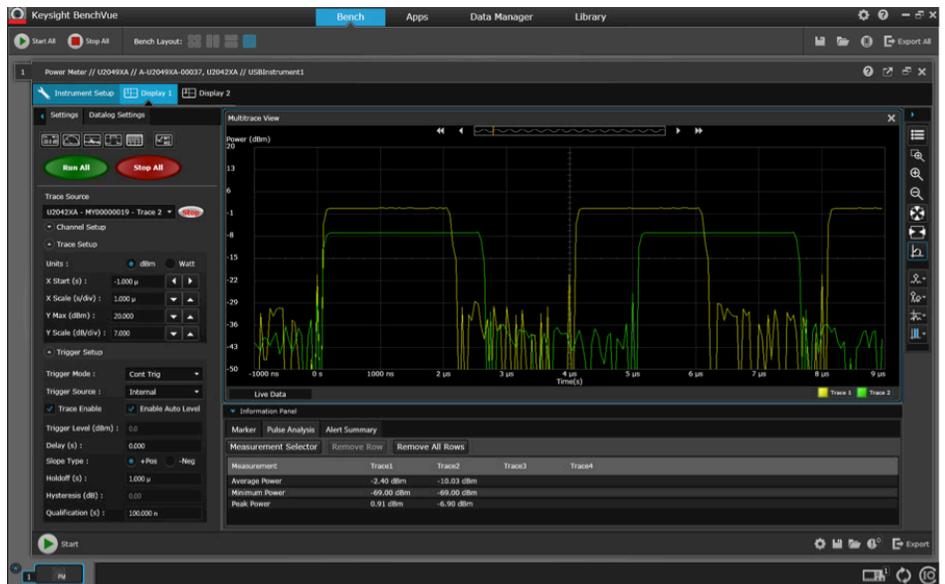

Figure 22. Two different pulses appear and shown in Power Meter App
32. Enable trace display (see Figure 22)	From Trigger Setup menu, check "Trace Enable"